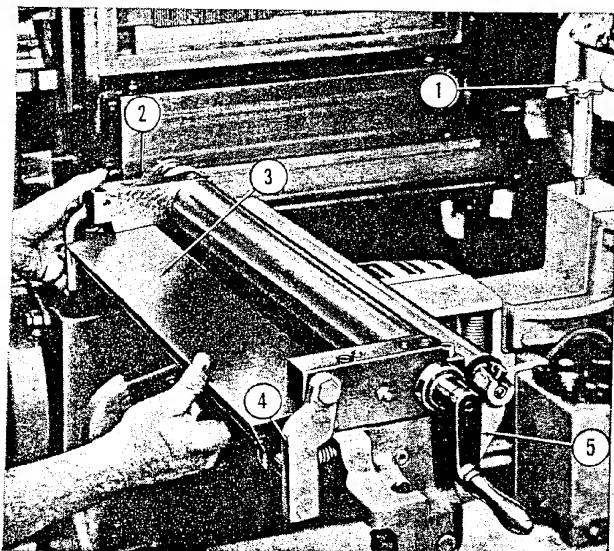

Figure 29—Closing Fountain Blade
(1) HOW TO OPEN AND ADJUST FOUNTAIN BLADE.—The ink fountain may be swung away from the press for facilitating wash-ups and change-overs. To swing fountain out of operating position, swing feeder to open position, loosen fountain lock wheel (1) permitting fountain (2) to be swung away from the press. (See figure 29).
The fountain is equipped with a "drop-blade", (3) figure 29, for facilitating wash-ups. To open the blade, push in fountain latch cam levers, (4) figure 29) and lower blade to open position. To close blade, lift up on blade lifting-edge as shown in figure 29 and latch cam levers securely.
*Note:* When closing blade, do not grasp blade so that fingers are close to fountain roller. Hold blade as shown in figure 29. Failure to comply with this warning may result in injury to the fingers.
blade. When adjusting the fountain screws for uniform ink flow, start at the center and work toward the ends, thereby preventing blade buckling. A crank, (5) figure 29, attachable to either end of the fountain roller, is provided for turning the fountain roller.